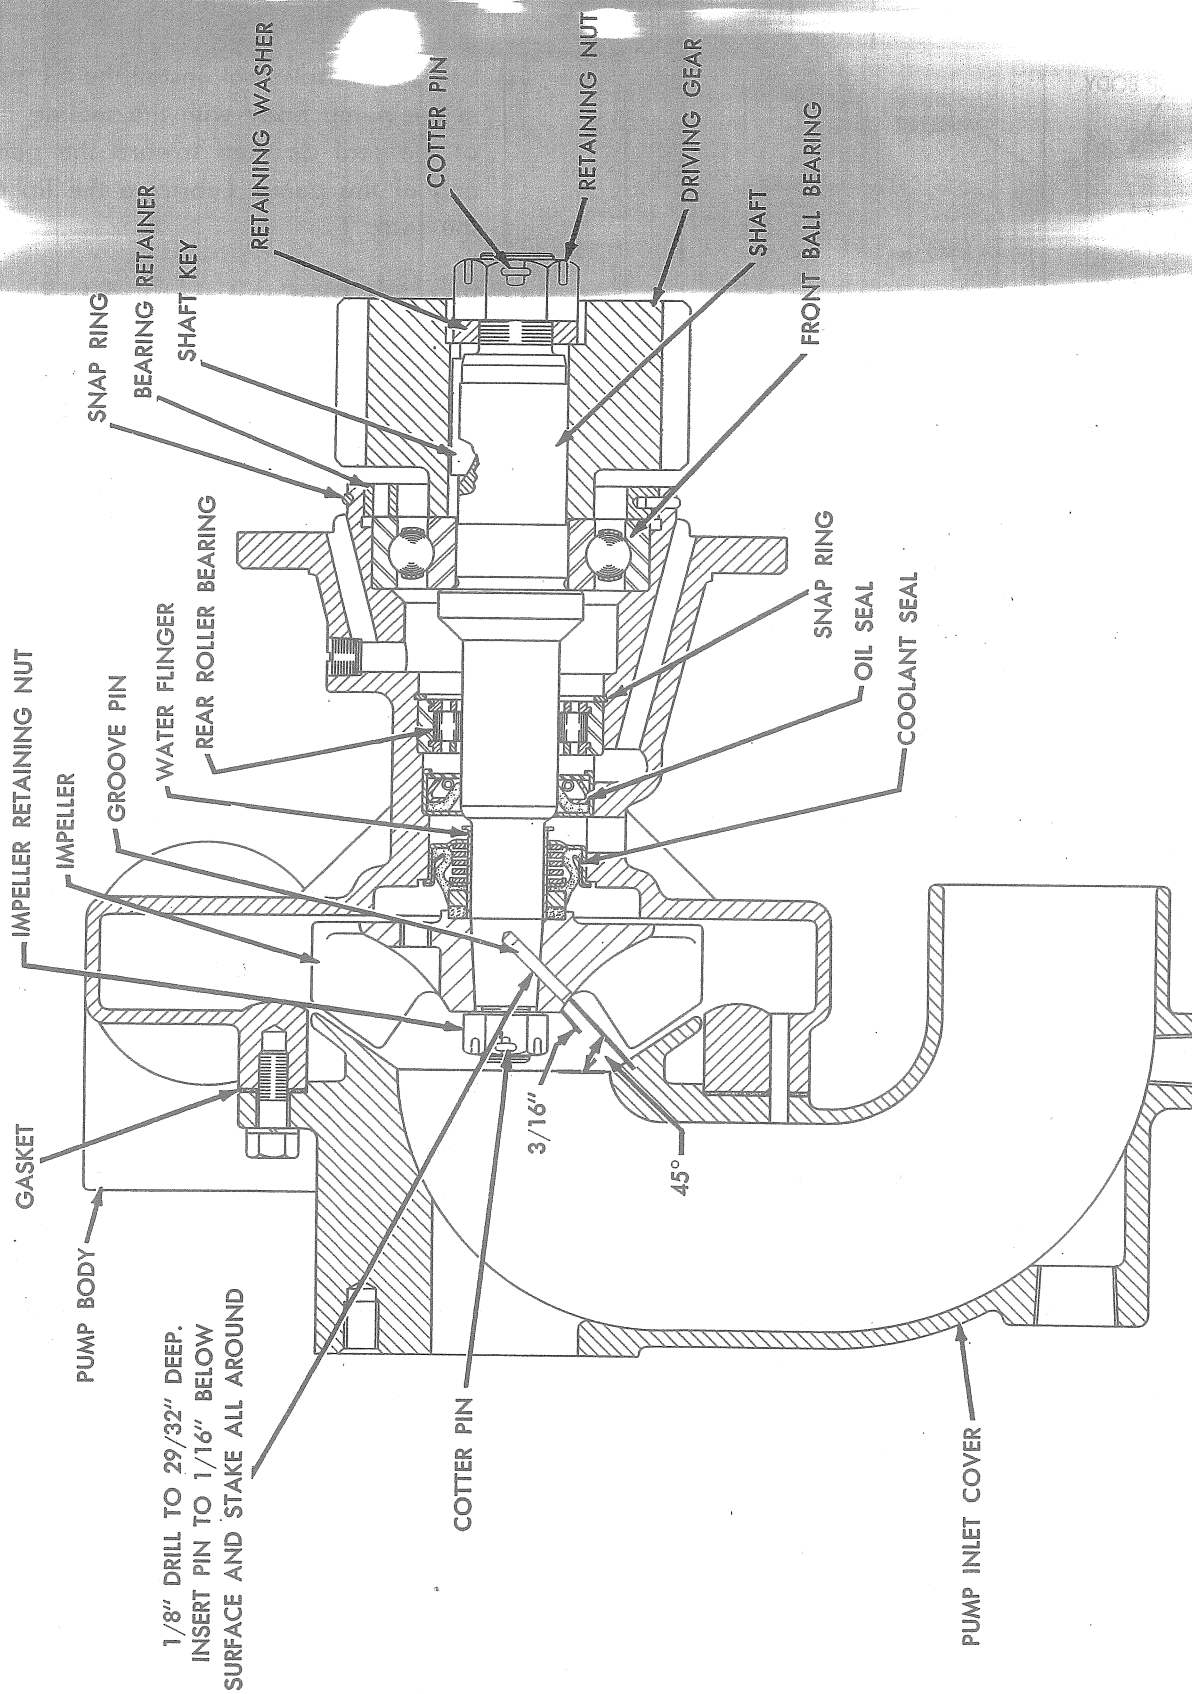

Fig. 15 — Second Type Water Pump —
2. Second Type Pump (Figs. 15 and 16)
- (1) Clean and inspect all parts thoroughly.
- (2) If the ceramic insert (bonded to the rear face of the impeller) is scored or cracked, a new impeller assembly must be installed.
- (3) Inspect the carbon sealing face of the seal assembly, if roughness or cracks are evident, the seal assembly must be replaced. A new water finger should be used when reassembling the water pump.
- (4) Check the bearings for looseness, roughness, bind, or pitting and replace if necessary.
- (5) Make certain the impeller vanes are not damaged or cracked. Replace the impeller if necessary.
- (6) Check the pump shaft for wear at the point contacted by the lip of the oil seal. Replace the shaft if necessary.
c. Assembly (Figs. 15 and 16)
- (c) Using a $\frac{1}{8}$ " diameter drill inserted into the drilled hole in the impeller, drill the groove pin hole in the pump shaft until the total depth of the hole is $\frac{29}{32}$ " (Fig. 15). Install the groove pin so that the outer end of the pin is $\frac{1}{16}$ " below the surface of the impeller and stake the pin in place.
- (9) If a new impeller is to be installed, refer to Fig. 15 and install the impeller as follows: